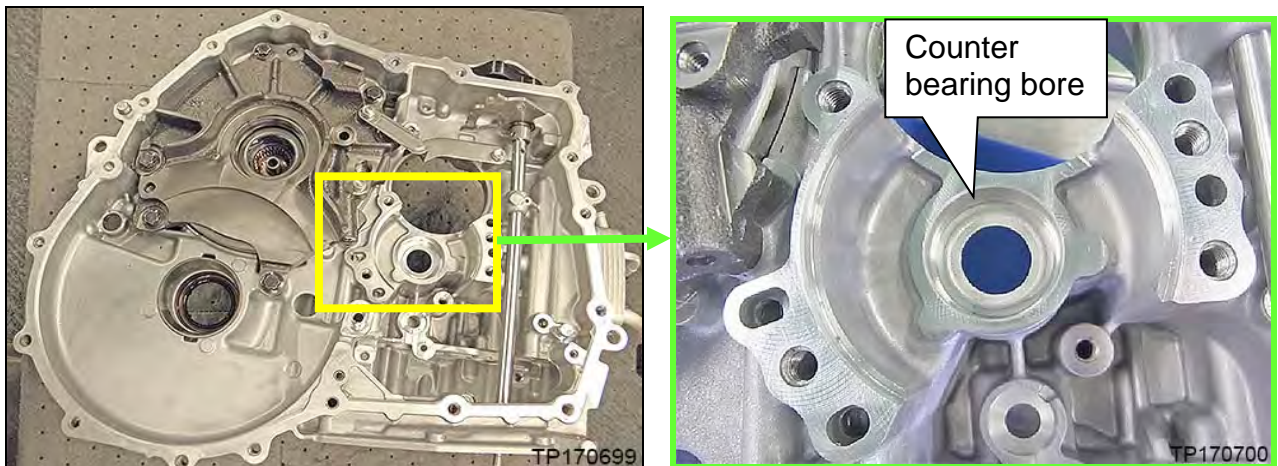

Figure 5L
5. Clean the counter bearing bore area (Figure 5L).